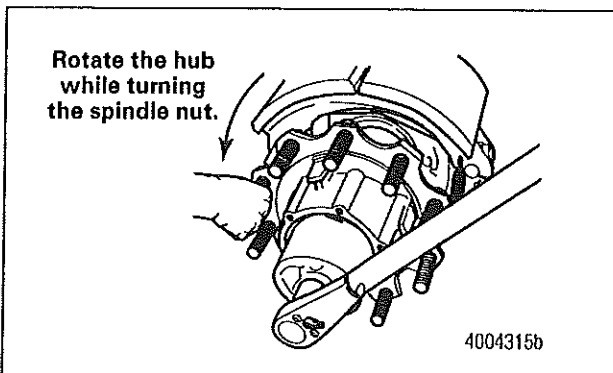

Figure 9
7. Tighten the spindle end nut to 810-850 lb-ft (1100-1150 N•m) while rotating the wheel and hub in a **COUNTERCLOCKWISE** direction. Do not back off the nut after tightening. Mark the location relative to the spindle. Figure 9. **ⓘ**